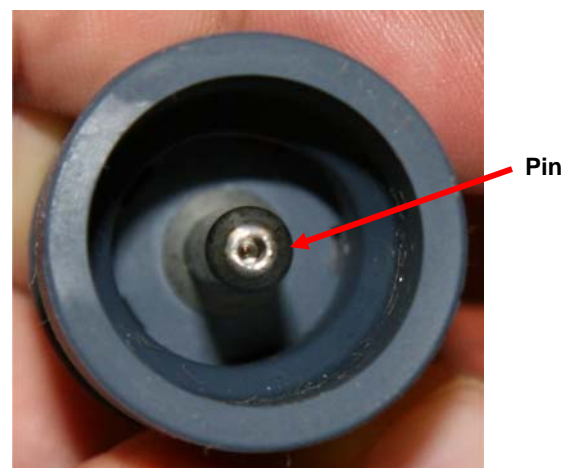

Figure 2
2. If the pin-and-cap assembly can be removed from the UAC coupling, inspect the pin to ensure that it is not bent (see Figure 2). If it is bent, contact your local Sperian Warranty Service Center to have a Sperian-certified technician replace the pin-and-cap assembly (Sperian part number 975641) on the Warrior; then follow the lubricating procedure in Step 3 below.